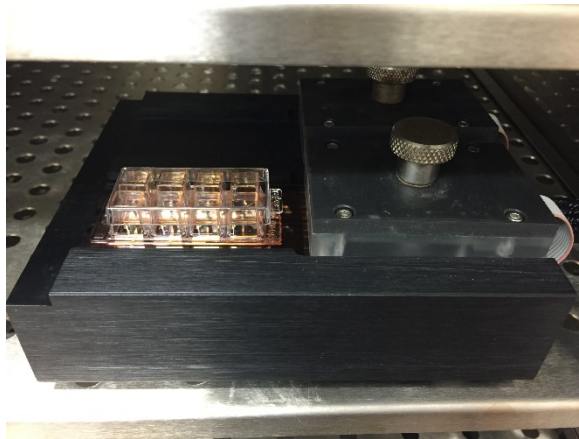

Figure 2. Cultureware in the ECIS array station within the incubator
- a. Place the cultureware in the ECIS Array station within the incubator (Figure 2). Start ECIS Z0 Software.